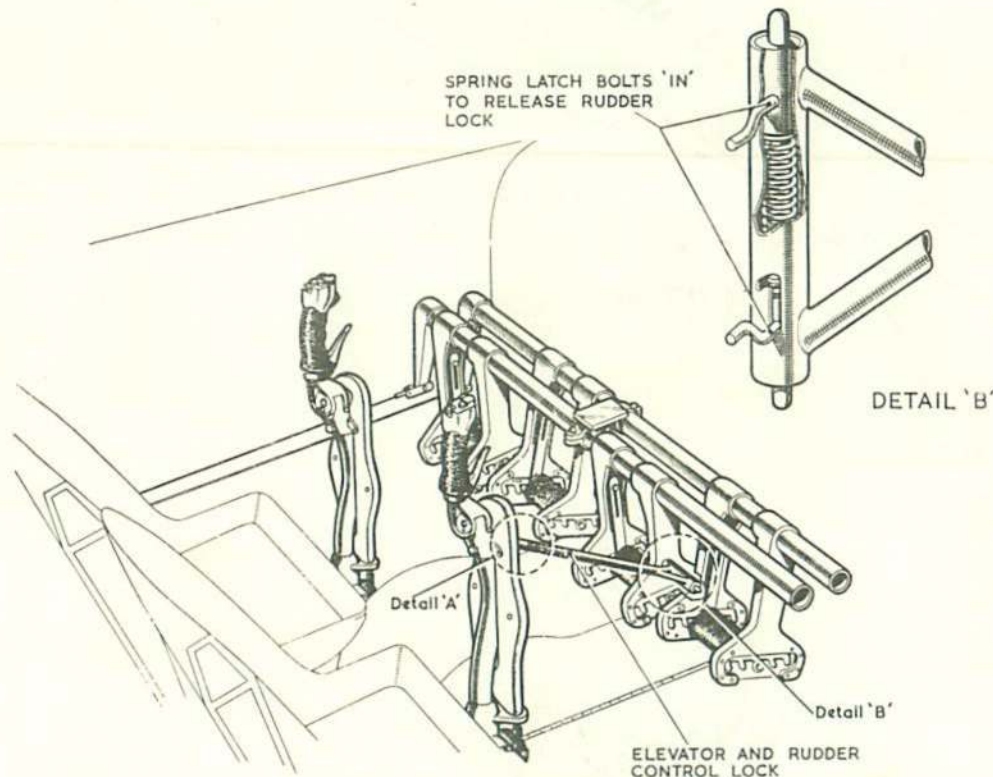

Fig. 2 Control column and rudder pedal locks
5. Details for locking the control column and rudder pedals are shown in Fig. 2. The control column locking arm is stowed under the radio shelf forward of bulkhead No. 1, (Fig. 2).